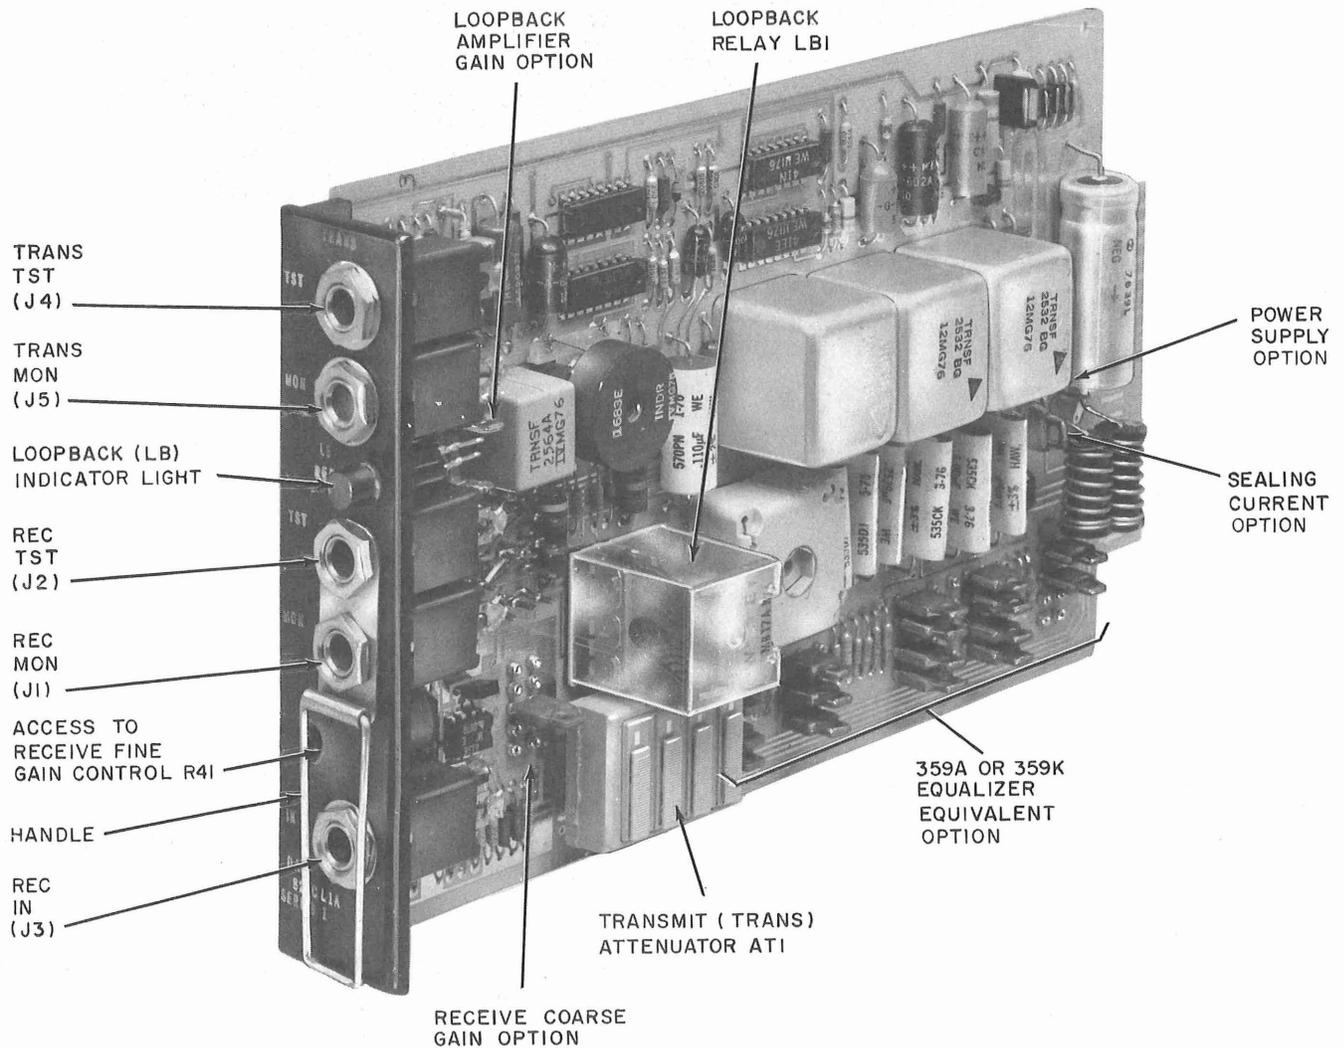

Fig. 3—DAS 829C-L1A
- 2.04 **DAS 829-type L1A (Fig. 3):** The DAS 829-type L1A is available in three basic